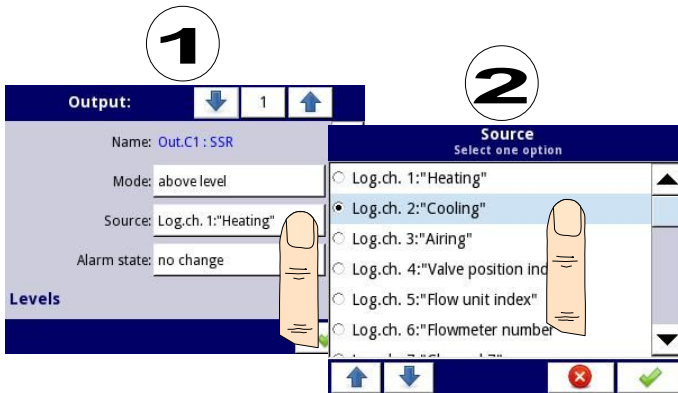

Fig. 7.78. Data source settings for built-in output (for SSR output module)
- **Source** – this parameter contains a list of logical channels (up to 60), where the selected logical channel will be a data source for this built-in output (see **Fig. 7.78**).
- **Source** - this parameter contains a list of logical channels (up to 60), where the selected logical channel will be a data source for this built-in output (see **Fig. 7.78**).
- **Source** – this parameter contains a **Logical channels** list, where the selected logical channel will be a data source for this built-in output (see **Fig. 7.78**),